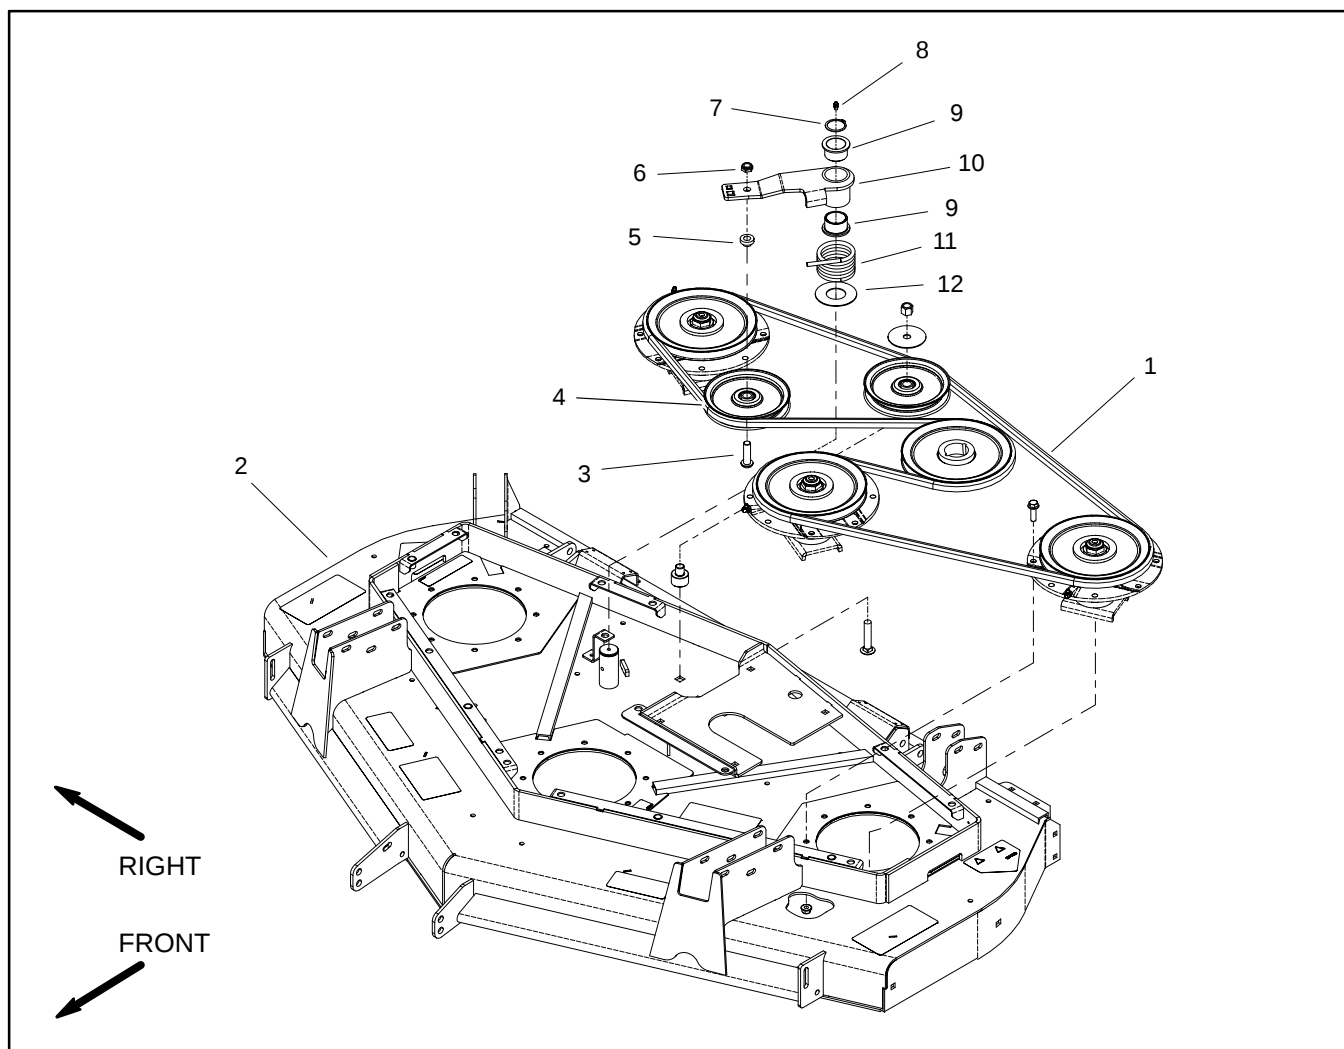

Figure 1
Removal (Fig. 1)
6. Remove idler components as needed using Figure 1 as a guide.
Installation (Fig. 1)
1. Install removed idler components using Figure 1 as a guide. Secure idler arm assembly to cutting deck with snap ring.